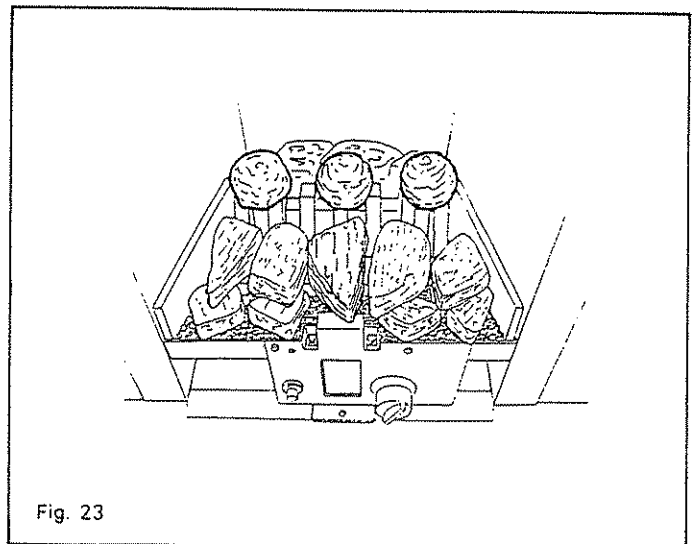

Fig. 23
7.7.5.4 The three rear "round" coals **must** be placed as follows: Take one of the rear "round" coals from the pack of three and place it on the top edge of the ceramic grid so that it rests on the left hand side cheek and on the back brick. Place a second "round" coal in a similar manner on the right hand top edge of the ceramic grid. Place the third "round" coal on the top of the grid in the centre, again resting it on the back brick (see fig. 23).